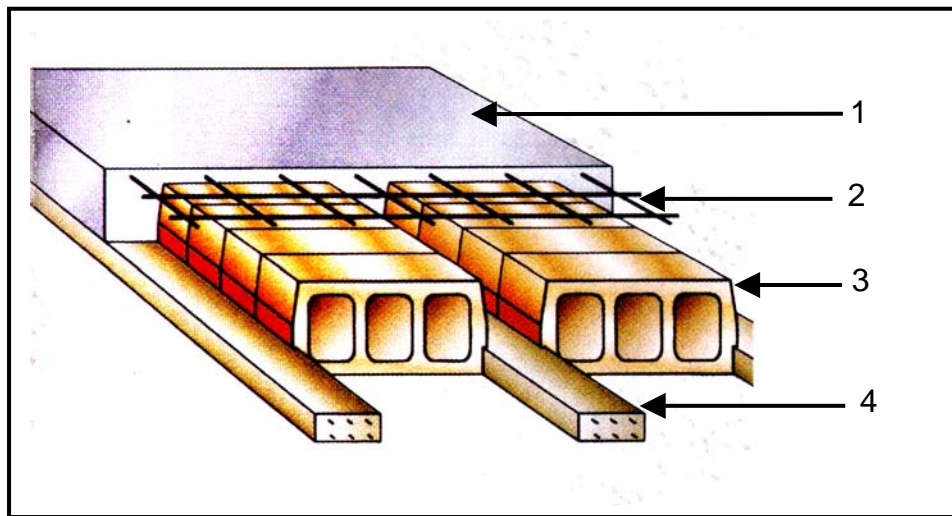

FIGURE 2.2
- 2.2 FIGURE 2.2 below illustrates a vertical section through a rib and block floor. Write down the numbers 1 to 4 in your ANSWER BOOK and next to each the correct name of the part indicated on the drawing.